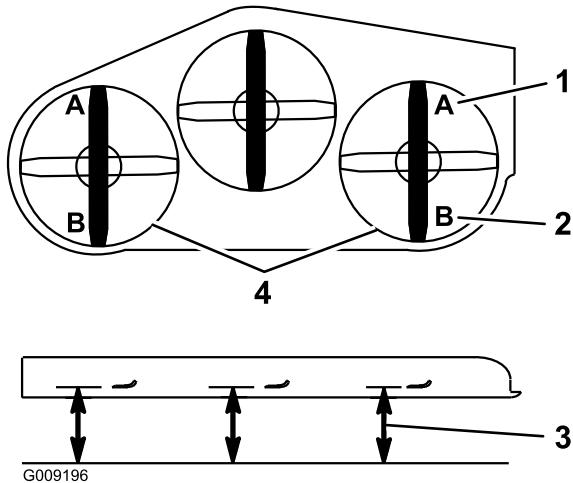

Figure 99
- 9. On both sides of the deck, measure from the level surface to the front tip of the blade (Postion A) as shown in Figure 99.
15. On both sides of the deck, measure from the level surface to the back tip of the blade (position B) as shown in Figure 99.